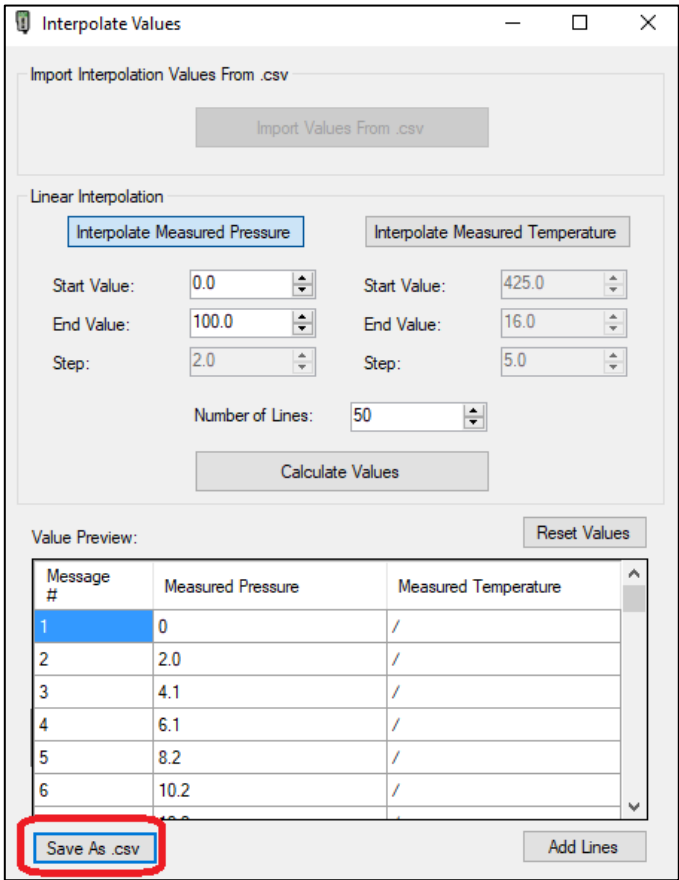
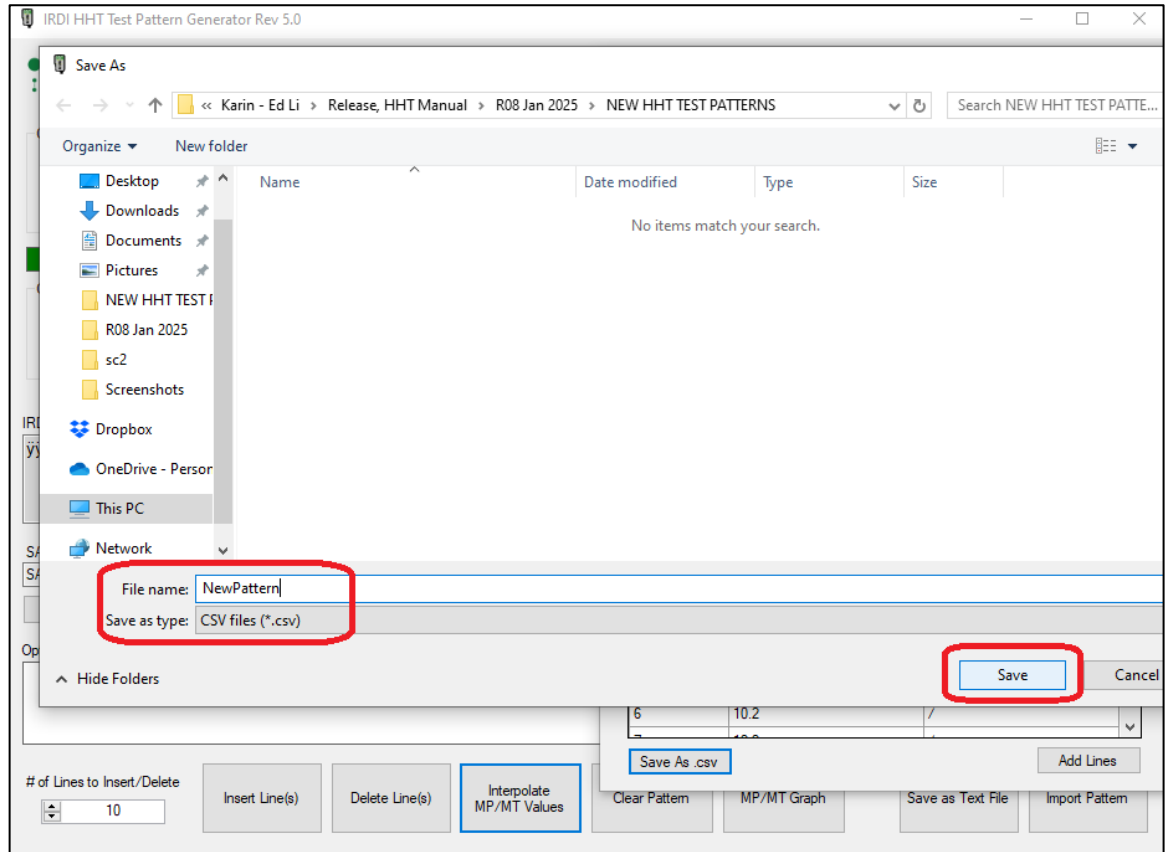

FIGURE 6-31 HHT TEST PATTERN GENERATOR SOFTWARE – SAVE RESULTS (# OF LINES)
FIGURE 6-32 HHT TEST PATTERN GENERATOR SOFTWARE – SAVE FILE (# OF LINES)
STEP 5	<p>To save this interpolated test pattern to a file, click on the “Save as csv” button – see Figure 6-31.</p> <p>A browser window will pop up – see Figure 6-32. Browse to the folder where you want to save the file, enter a file name for this test pattern, and click on the “Save” button, to save the file.</p>